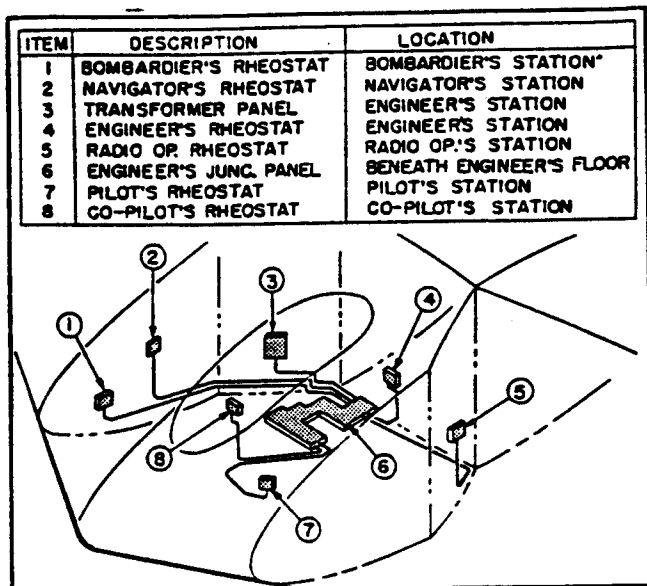

Figure 38. Heated Flying Suit
(7) HEATED FLYING SUIT CONTROLS. (See Figure 38.)